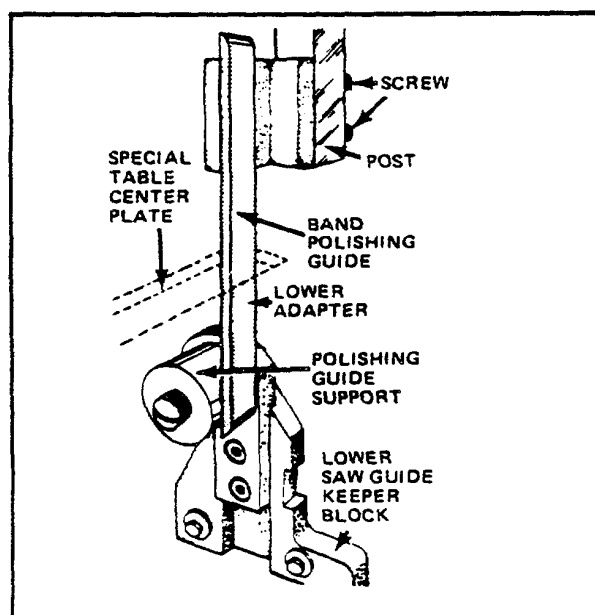
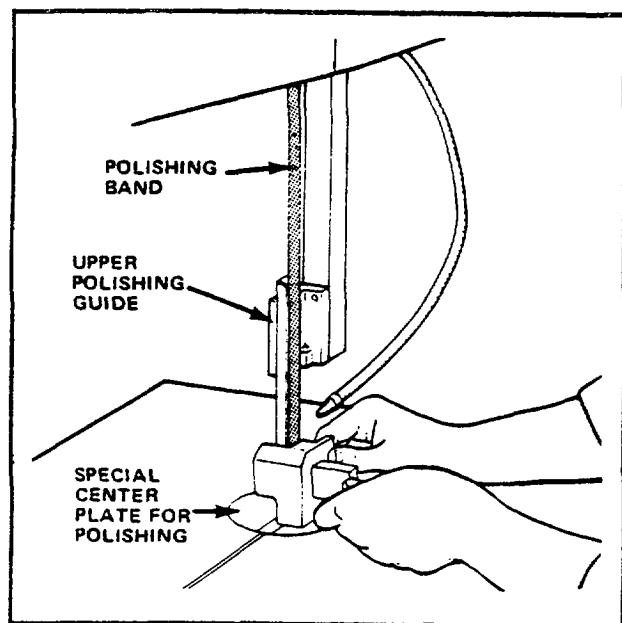

FIG. 49. BAND POLISHING GUIDES.
FIG. 50. BAND POLISHING OPERATION.
- (1) Remove table center disk. Mount polishing band guide support to lower adapter. See Fig. 49. Lower post to 4 inches (100 mm) from table. Mount polishing band guide to post with two thumb screws. Mount and track polishing band on wheels in same manner as file bands. Correct polishing band tension is that used for a 1/16-inch (1.5 mm) wide carbon saw band. Install special table center adapter plate. See Fig. 50.